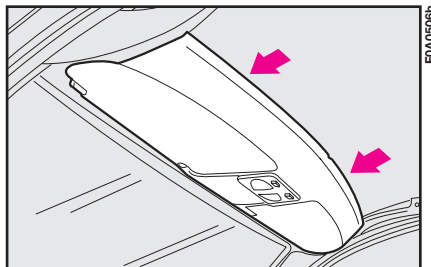

fig. 100
### ODDMENT SHELF fig. 100
**IMPORTANT** The shelf was designed for loads not exceeding 3 kg on each side. Consequently, do not arrange objects exceeding these weights. Do not use the points shown as grips **fig. 100**. Use the specific side handles.